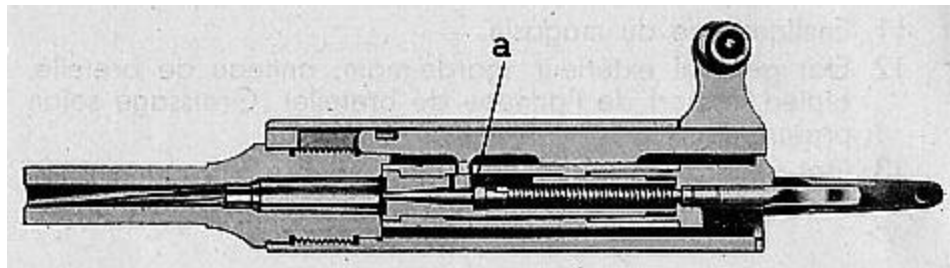

Figure 23
8. Inspect play between the locking plat pin and the firing pin (with firing pin mechanism disarmed) (see figure 23).